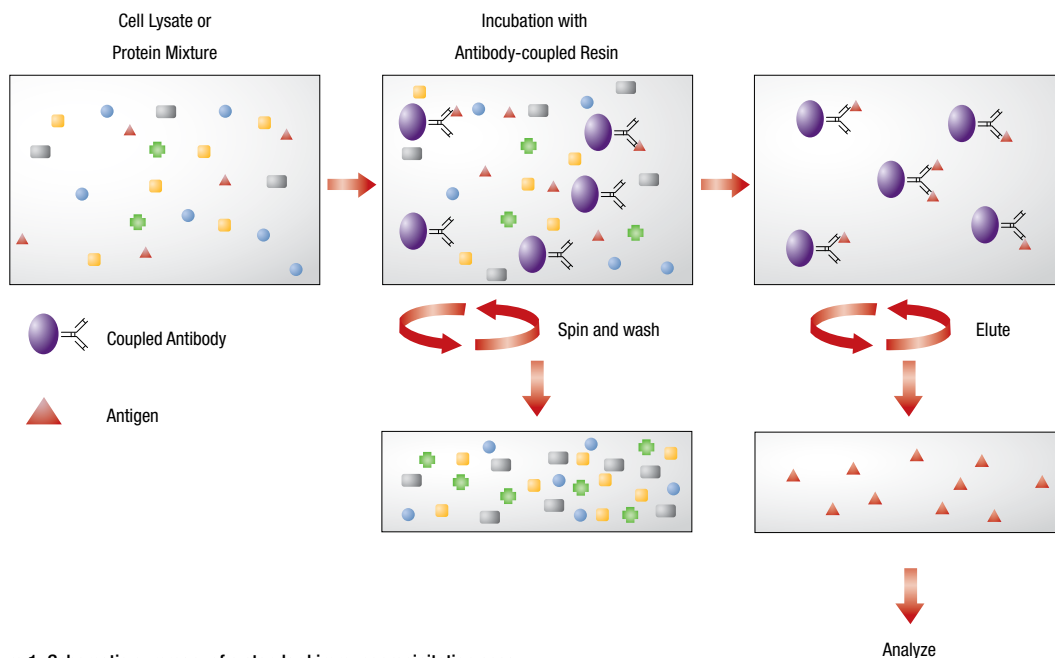

Figure 1. Schematic summary of a standard immunoprecipitation assay.
**Figure 1. Ratio of protein abundance.** Human Serum Albumin and IgG comprise almost 75% of all serum proteins. Other proteins with less (but still significant) abundance include  $\alpha$ 1-Acid Glycoprotein,  $\alpha$ 1-Antitrypsin,  $\alpha$ 2-Macroglobulin, Apolipoprotein A-I, Apolipoprotein A-II, Fibrinogen, Haptoglobin, IgA, IgM and Transferrin, which altogether comprise up to 95% of serum proteins.
**Figure 1. Effective albumin removal improves 2D gel analysis of serum.** **Panel A.** Human serum was diluted five-fold in TBS (i.e., 10 $\mu$ L of serum added to 40 $\mu$ L of TBS), and 5 $\mu$ L of the diluted serum was separated by 2D-SDS PAGE. **Panel B.** Human serum was diluted two-fold in Binding/Wash Buffer (i.e., 50 $\mu$ L of serum added to 50 $\mu$ L of buffer) and processed using the Pierce Albumin Depletion Kit according to the instructions. Albumin-depleted samples and washes were combined (i.e., 100 $\mu$ L sample with 150 $\mu$ L wash buffer) and 5 $\mu$ L was separated by 2D SDS-PAGE. For 2D SDS-PAGE analysis, samples were diluted with 2D SDS-PAGE loading buffer, focused using pH 4-7 isoelectric focusing (IEF) strips and separated using 8-16% Tris-glycine gels. Gels were stained using Thermo Scientific™ GelCode™ Blue Stain (Product # 24590). The black arrow points to the gel region where albumin is located on the duplicate gels before (A) and after (B) processing.
**Figure 1. Performance of Thermo Scientific Pierce Top 12 Abundant Protein Depletion Spin Columns compared to equivalent products from other suppliers.** Human serum (10-20 $\mu$ L, Product # 31876) was loaded onto each resin and processed according to the manufacturer's protocol (Agilent: Human 14 Multiple Affinity Removal Spin Cartridge, Product # 5188-6560; Sigma: SEPPRO™ IgY14 Spin Column, Product # SEP010; BAC: CaptureSelect™ HumanPlasma 14 Depletion Resin, Product # 291.9914) protocol. Total protein in the depleted fractions was estimated using Thermo Scientific™ Pierce™ BCA Protein Assay Kit (Thermo Scientific, Product # 23225). Total amount of albumin in the depleted fractions was determined using AssayMax™ Human Albumin ELISA Kit (Assaypro, Product # EA2201-1). FT = flow-through (i.e., depleted sample); E = eluate (i.e., proteins that were bound by the resin, plus stripped affinity antibodies of the column). Performance of all four products is comparable in this analysis. With the Top 12 proteins removed, low-abundance proteins are now visible in each depleted sample lane (FT).
Phospho-specific antibodies recognizing key regulatory proteins involved in growth factor signaling were used to monitor binding specificity of the Pierce Phosphoprotein Enrichment Kit (Figure 1). Specificity of the kit is further demonstrated by the absence of Cytochrome C (pI 9.6) and p15Ink4b (pI 5.5), two proteins not predicted to be phosphorylated, in the elution fraction and their emergence in the flow-through and wash fractions (Figure 1). Furthermore, dephosphorylation of HeLa cell extract *in vitro* resulted in diminished binding of PTEN, MAPK and GSK3 $\beta$  to the Thermo Scientific™ Pierce™ Phosphoprotein Enrichment Column as evidenced by their absence in the elution fraction. In contrast, all three proteins were present in the elution fraction from non-treated HeLa extract (Figure 2). The Pierce Phosphoprotein Enrichment Kit provided superior and efficient phosphoprotein enrichment yields when compared to other suppliers' products (Table 1). It also effectively enriched phosphoproteins from homogenized mouse liver tissue (Figure 3).
**Figure 1. Highly pure phosphoprotein enrichment from complex biological samples.** Serum-starved HeLa and NIH 3T3 cells were stimulated with EGF and PDGF, respectively. Cell lysate (2mg) was used for enrichment. Concentrated flow-through, wash and elution fractions were resolved by SDS-PAGE. Gel lanes were normalized by protein concentration (10 $\mu$ g/lane). Western blot analysis was performed using antibodies that detect site-specific phosphorylation events. Cytochrome C (pI 9.6) and p15Ink4b (pI 5.5) served as negative controls for nonspecific binding of non-phosphorylated proteins. FT = flow-through fraction, W = pooled wash fractions, E = pooled elution fractions and L = non-enriched total cell lysate.
Figure 1. Diagram of Thermo Scientific Pierce Protein A/G Magnetic Beads. The magnetic particles are 1µm in diameter and are specially manufactured with two layers of magnetite and encapsulation. Recombinant Protein A/G is coupled to the bead surface.